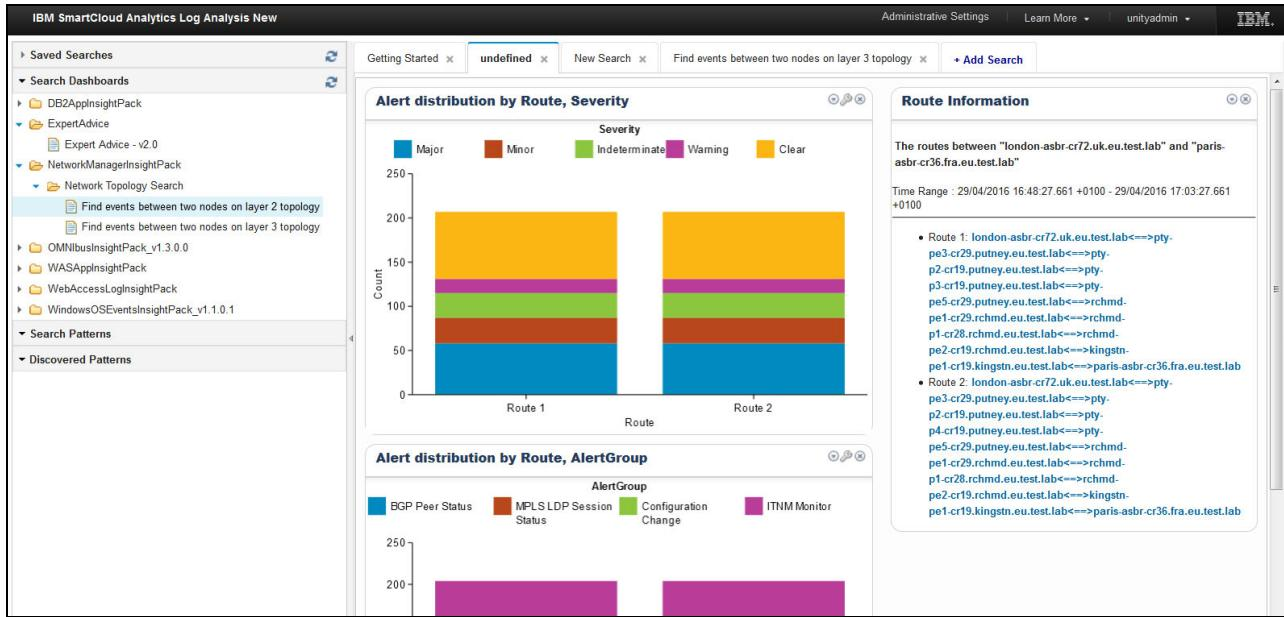

Figure 5-5 IBM SmartCloud Analytics - Log Analytics User Assistance
7. The IBM Operations Analytics - Log Analysis console is shown. Tom can search the log files for keywords. Search results are displayed in a list or table format. Search results also are displayed in a distribution graph because he searched for events between two selected devices, as shown in Figure 5-5.